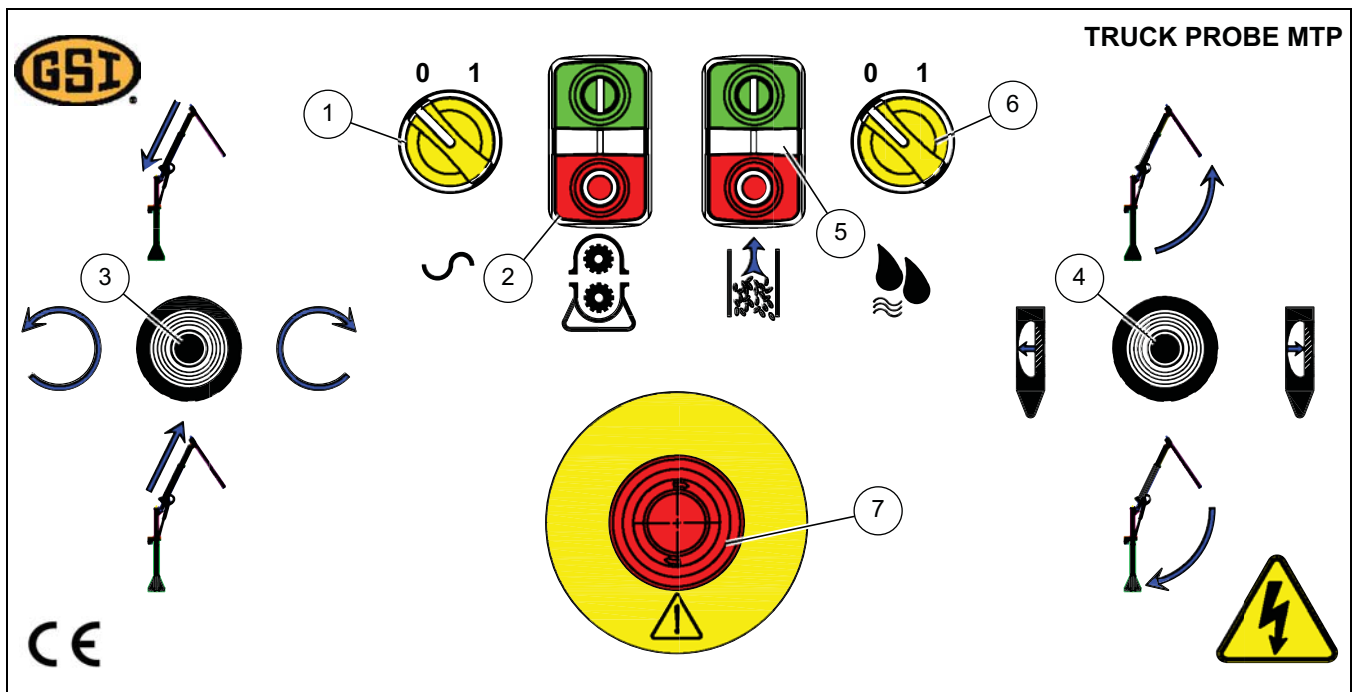

Figure 4B Operator Control Console Legend
1. Ensure all personnel are clear of the safety zone around the sampler. *(See Figure 4B on Page 22.)*
2. Close the main disconnect on the power panel. *(See Figure 4B on Page 22.)*
3. Start the control power. *(See Figure 4B on Page 22.)*
4. Start the hydraulic pump and check motor rotation is as marked. DO NOT run the pump in reverse as damage will occur. *(See Figure 4B on Page 22.)*
- e. Start the system and gradually pressurise the section being bled by operating the control joy-sticks. *(See Figure 4B on Page 22.)*